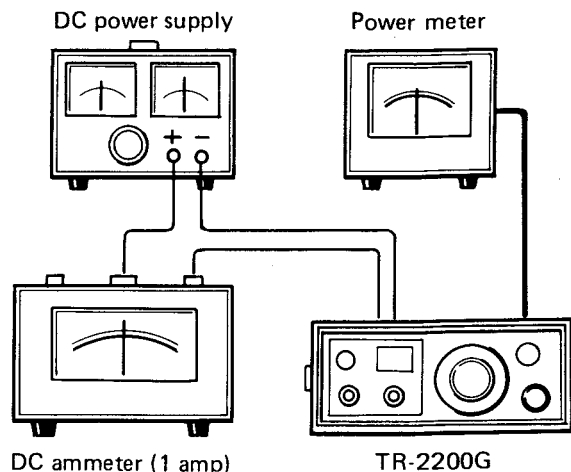

Fig. 5
2. Set the channel selector of Model TR-2200G to a transmit frequency of 144.15 MHz and connect the instruments as shown in Fig. 5.